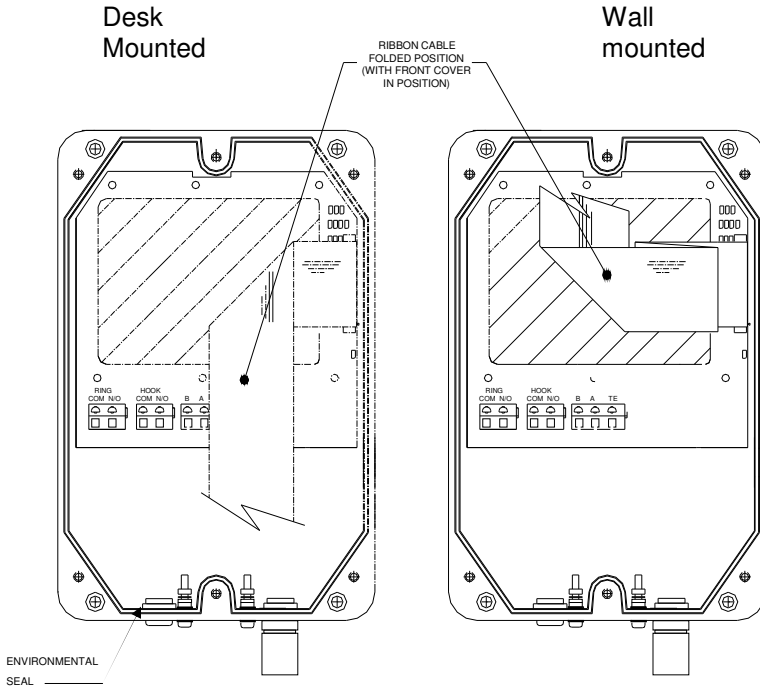

Figure 9 - Ribbon cable positions
2. Rotate the Front Casing through 180° and fold the keypad ribbon cable to ensure that it lays flat against the potted block when re-assembled. Refer to Figure 9 - Ribbon cable positions (page 21)